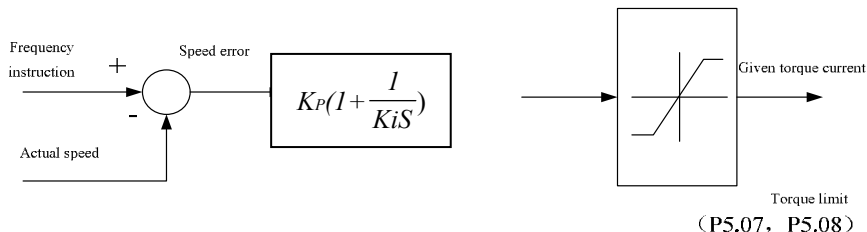

Fig. 6-14 Simplified block diagram of ASR
- Speed regulator (ASR)'s structure is shown in Fig.6-14, where K_p is proportional gain P, and K_i is integration time I.